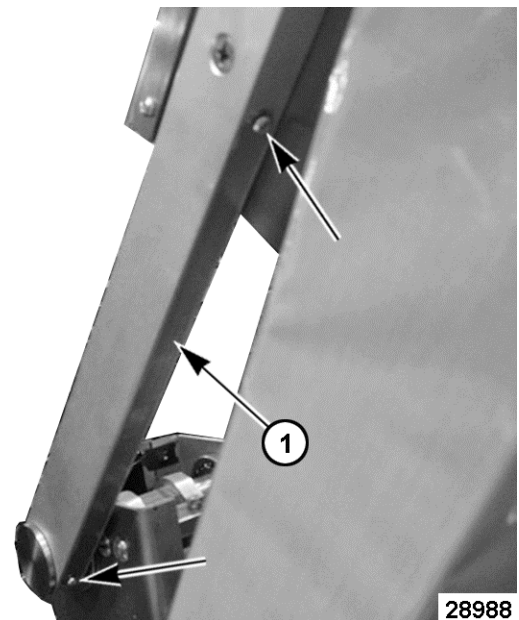

Fig. 36
- B. Fully raise clamshell to access the left arm wireway cover on the bottom of arm. Remove wireway cover (1, Fig. 36) from the bottom of left arm.